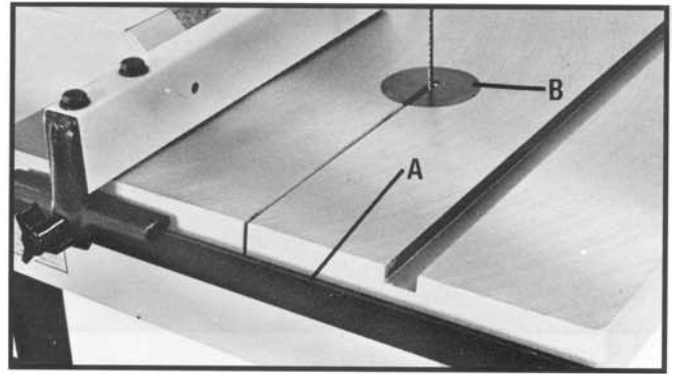

Fig. 24
3. Remove the fence guide rail (A) Fig. 24, and table insert (B).